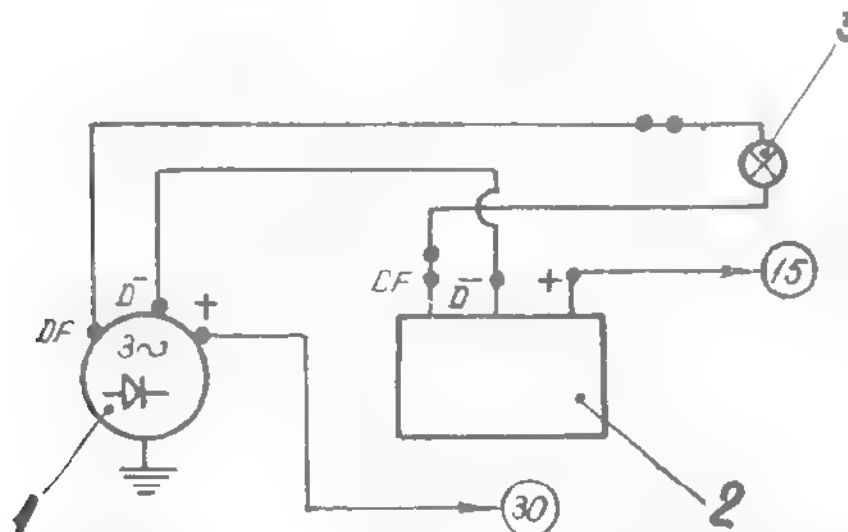

Fig. 4.35. CONNECTION DIAGRAM FOR CHECKING EXCITATION CIRCUIT OF ALTERNATOR
1. Alternator; 2. Voltage regulator; 3. Test lamp; (15) and (30): connecting leads to ignition switch respective terminals.
- If alternator does not charge, although there is voltage at regulator " + " terminal, stop the engine, disconnect alternator "DF" contact plug and to connection between AMP-type contact plug (green lead wire) and alternator "DF" terminal, through the test lamp (see Fig. 4.35.).